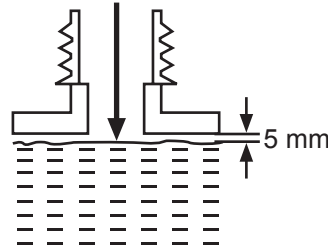

Fig. 20
- > Set the product on any suitable surface with the chain oil tank cap (30) facing upwards.
- > Unscrew and remove the tank cap (30), then add the lubricant into the tank. Use motor oil SAE#10W-30 all year round or SAE#30-#40 in summer and SAE#20 in winter.
- > Use a proper funnel with a filter to prevent debris entering the tank and to avoid spilling and overfilling the tank. Do not overfill and leave approximately 5 mm of space to the lower edge to allow the lubricant to expand (Fig. 20).